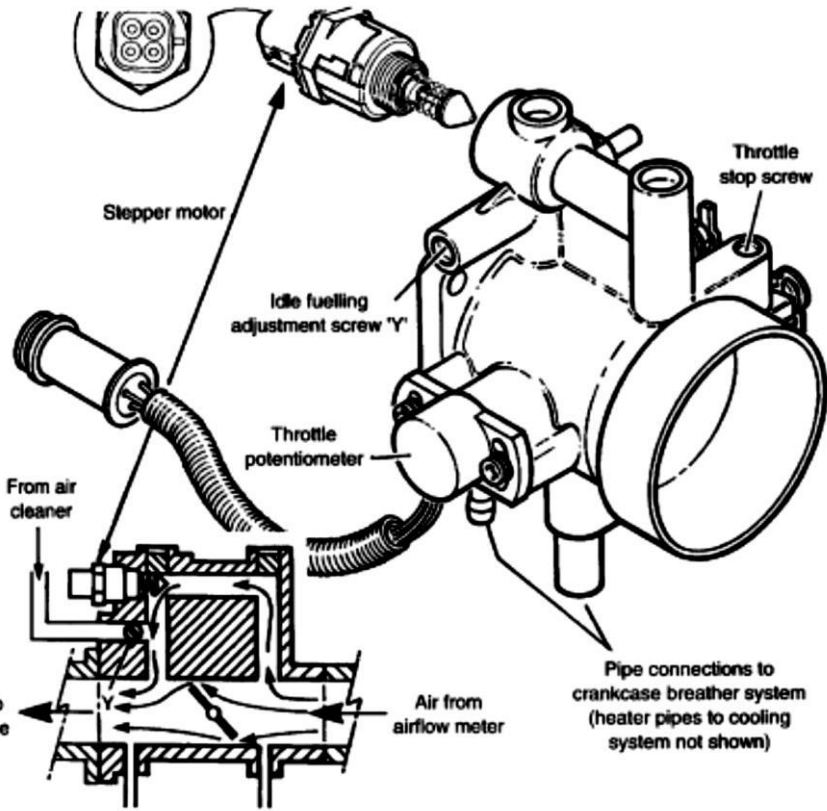

Fig. 6.12 A stepper motor operated air valve
- Two types of valve are used to provide a computer controlled idle air supply. One makes use of a **stepper motor**, as shown in Fig. 6.12, and the other uses a **solenoid operated valve** as shown in Fig. 6.15.
- Figure 6.12 shows a simplified arrangement of the extra air (air by-pass) valve that is built into the throttle body of some petrol injection systems.